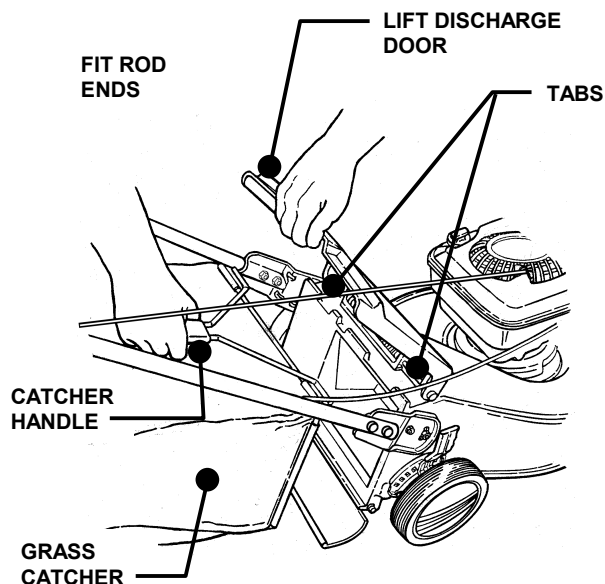

FIGURE 2.9
2. Lift discharge door located at the rear of machine. See Figure 2.9.